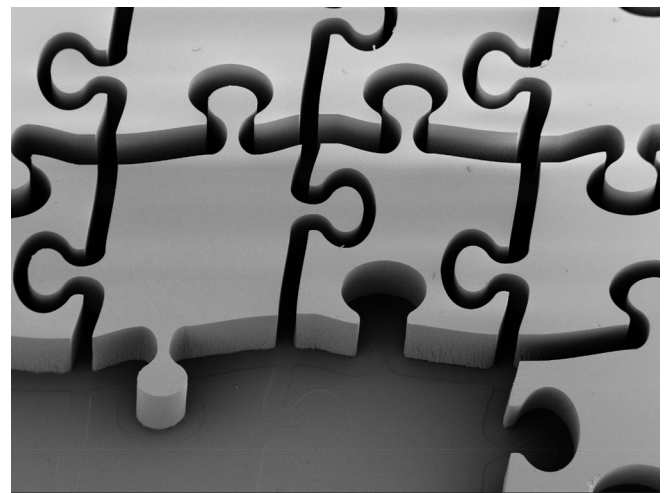

Fig. 5 Plasma diced test structure
- Non-rectangular die shapes can also be created (i.e. defined by mask, not blade cut) - see Fig 5 overleaf